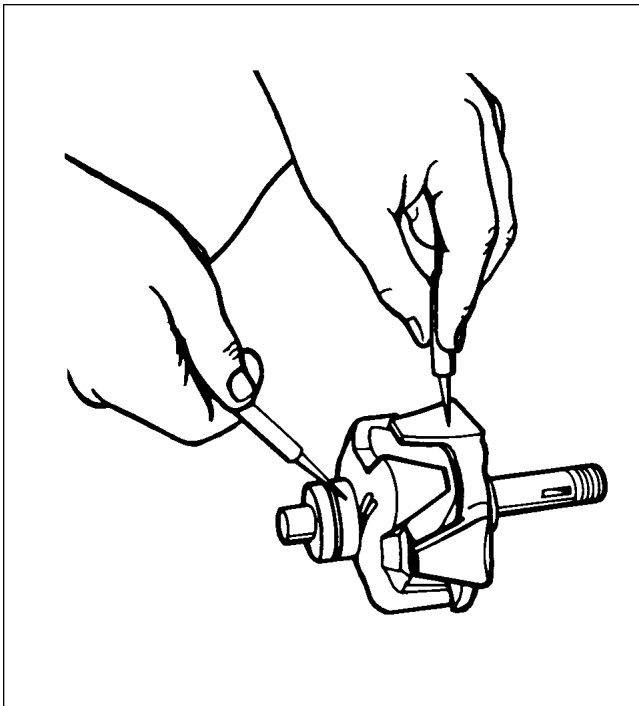
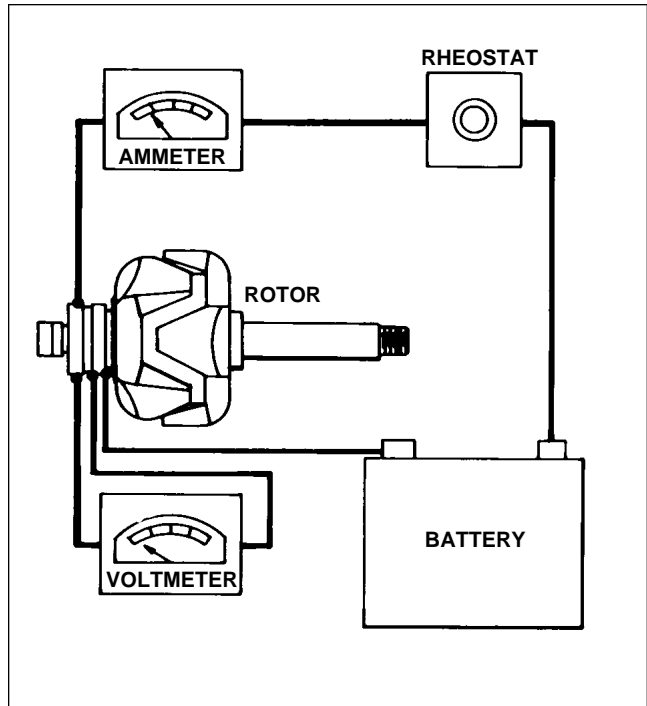

Figure 24-48. Testing Rotor For Ground
Figure 24-49. Testing Rotor For Shorts
- a. Rotor: Rotor must be tested for grounded or shorted windings. Ground test is made with test probes, connected in series with a 110-volt test lamp, an ohmmeter, or any type of continuity tester. (Refer to Figure 24-48.) There must not be continuity between slip rings and rotor shaft or poles. To test for shorted turns in rotor winding, connect a voltmeter, ammeter, and rheostat as in Figure 24-49, or use an ohmmeter. Rotor current draw and resistance are listed in alternator service test specifications paragraph. Excessive current draw or a low ohmmeter reading indicates shorted windings. No current draw or an infinite ohmmeter reading indicate an open winding.
- (1) Touch one test probe to a rectifier heat sink and the other test probe to a lead from one of the rectifiers in that heat sink.
- (2) Reverse position of the leads.